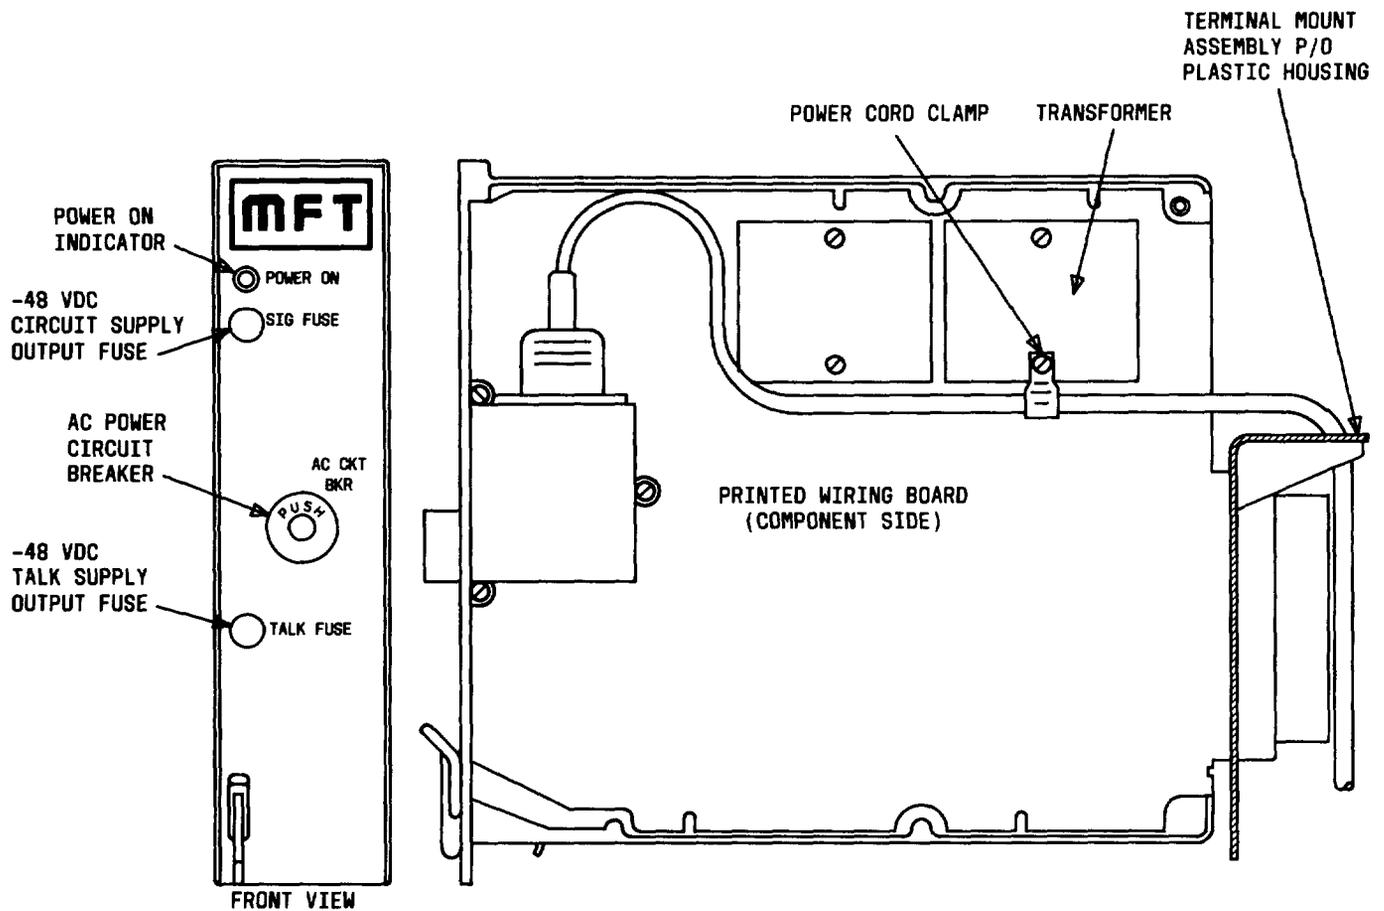

Fig. 3—J99400AA Power Supply/Frequency Generator and Power Cord
- (b) Plug the female end of the 117 Vac power cord into the 117 Vac receptacle located in the safety cover on the power supply/frequency generator printed wiring board as shown in Fig. 3.
- (c) Position power cord down and around the bottoms of the two transformers mounted at the top of the printed wiring board, adjusting the power cord radius at the top of the connector so that it is just below the plastic card holder as shown in Fig. 3.
- (d) Attach the cable clamp located on the rear uppermost transformer tightly around the power cord and engage the stud button through the closest strap hole (Fig. 3). Tuck excess strap through slot in clamp base.
- (c) Remove left-hand plastic housing (facing) from the mounting plate by (1) loosening the two screws located at the inside-back, top corners and the screw located at the inside-back, bottom-center of the plastic housing being removed and (2) slipping the plastic housing up and off the mounting plate.
- (d) Remove old power cord and replace with new power cord. Route the power cord up through the rear of the plastic housing, through a cutout in the terminal mount assembly and into the housing cavity (Fig. 3).
- (e) Reinstall plastic housing to mounting plate by (1) placing the plastic housing so that the screwhead on the mounting plate enters the keyhole on the back, bottom-center of the plastic housing, (2) placing the plastic housing vertical and flush to the mounting plate, (3) sliding the plastic housing downward until the two upper screws hang on the upper slotted brackets located on the upper rear corners of the plastic housing, (4) visually determining that the screws are engaging the mounting slots, (5) determining that the power cord is captured in access cutout at the bottom of the plastic housing, and (6) tightening the two screws located at the inside-back, top corners and the screw located at the inside-back, bottom-center of the plastic housing.